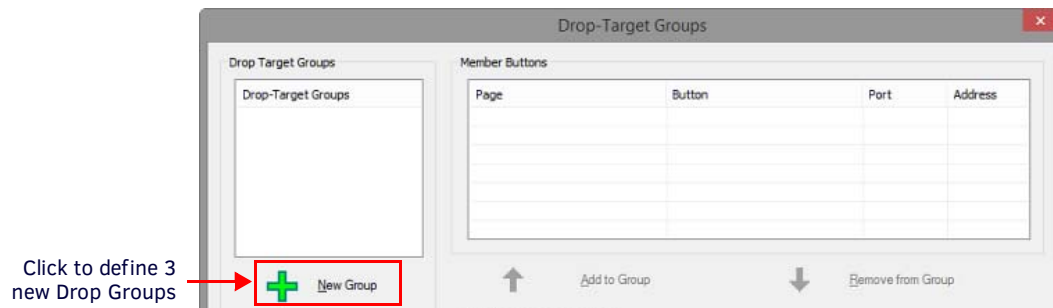

FIG. 263 Drop-Target Groups dialog
1. Select **Panel > Edit Drop-Target Groups** to open the *Drop-Target Groups* dialog (FIG. 263):